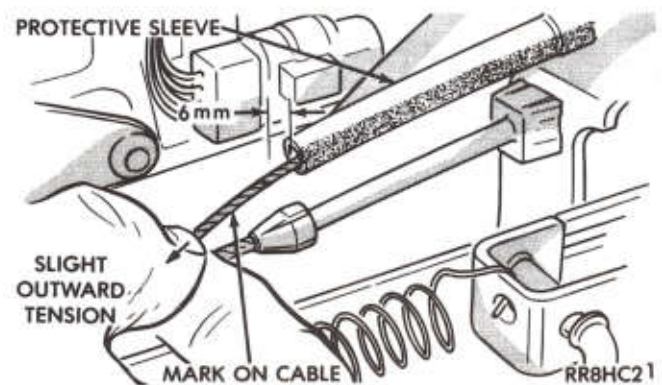

Fig. 9—Pull Cable Out and Measure from Mark to Protective Sleeve
(3) Pull core wire away from servo. There should be a 6mm (.24 in.) gap between the mark on the core wire and the protective sleeve (Fig. 9).